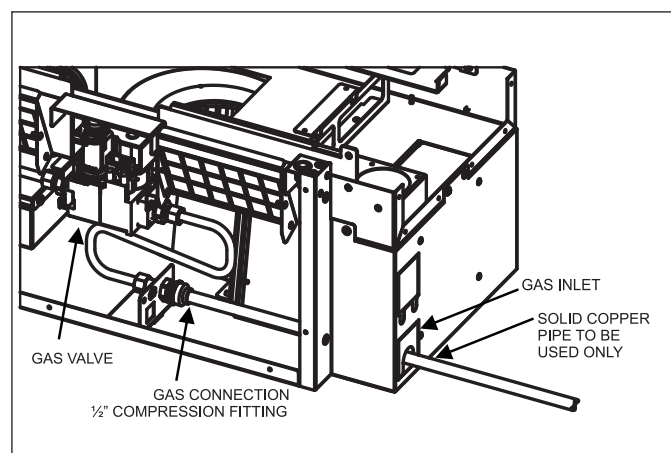
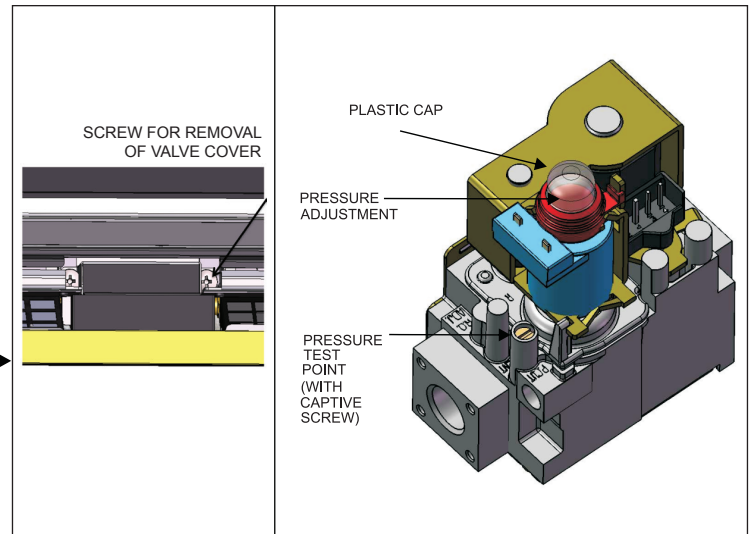

FIG 36 Remove front panel to access gas valve.
FIG 37
3. Connect gas supply pipe to the 1/2" compression fitting (**FIG 36**) and tighten.
1. Locate gas valve as shown in Installation Instructions on Fig 36, pg 21. The Gas Valve cover is removed from the heater by undoing a screw on the right side of the cover. **See fig.** Remove plastic cap from the Pressure Adjustment (**see FIG 37**), using a screw driver to pry off.